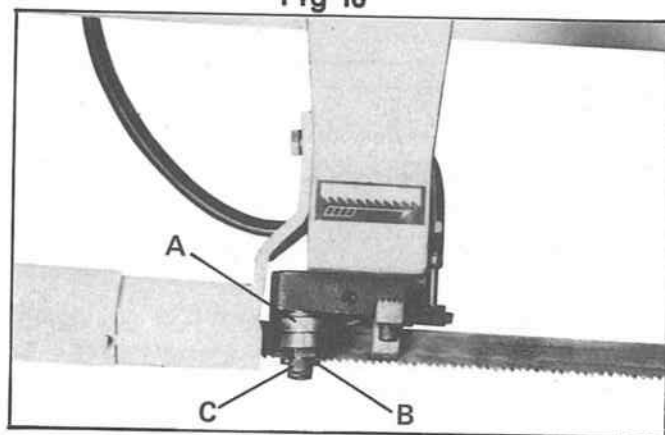

Fig 11
The back of the blade Fig. 11, should ride against the back-up support bearing which is positioned at an angle so as to provide greater bearing support, eliminating bearing wear and extending blade life. The saw blade should also ride between the two roller bearings (A) and (B) Fig. 11. The rear bearing (B) on the left hand blade guide can be easily adjusted to suit blade thickness by loosening screw (C). The bearing (B) is on an eccentric which enables it to be adjusted for the thickness of the blade. The roller bearings on the right blade guide bracket are adjusted for blade thickness in the same manner with the exception that the adjustable bearing is in the forward position. Clearance between blade and rollers should be no more than .001".